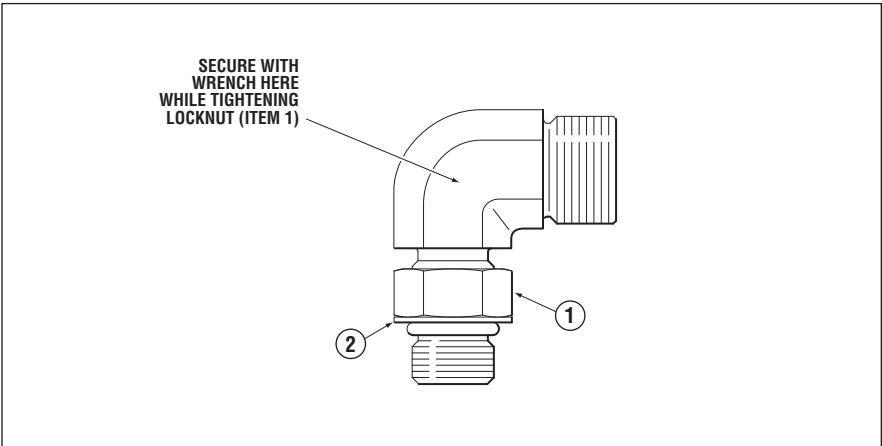

Figure 20.
- 1 Back off lock nut (item 1, Figure 20), counter-clockwise, until it stops.
- 2 Thread fitting into cylinder body until fitting washer (item 2, Figure 20) contacts the face of the cylinder port. Tighten hand tight, **DO NOT TORQUE FITTING INTO GLAND.**
- 4 While holding fitting with a wrench, tighten the locknut (item 1, Figure 20) and torque to 40–43ft-lb.
**Failure to properly tighten the locknut (item 1, Figure 20) may lead to loss of steering control. Loss of steering control may result in unpredictable boat behavior, collision with an obstacle and/or ejection from vessel, leading to property damage, personal injury and/or death.**